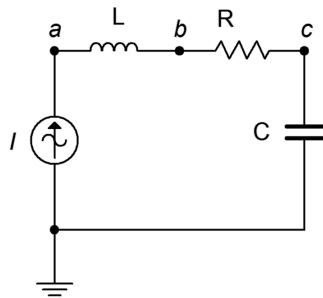

Figure 2.29
47. For the circuit of Figure 2.29, determine the voltages across each component. The source is a 2 mA RMS sine at 1 kHz, $R = 1.2 \text{ k}\Omega$, $C = 750 \text{ nF}$ and $L = 6.8 \text{ mH}$.